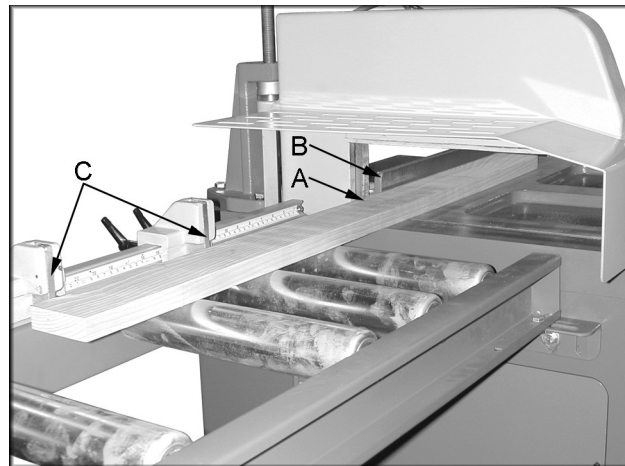

Figure 14
10. Now place the board (A, Figure 14) flat on the table and flush against the saw fence (B, Figure 14) and the stops (C, Figure 14) in the retracted position. If necessary, shift the roller table horizontally to bring it in line with the fence.